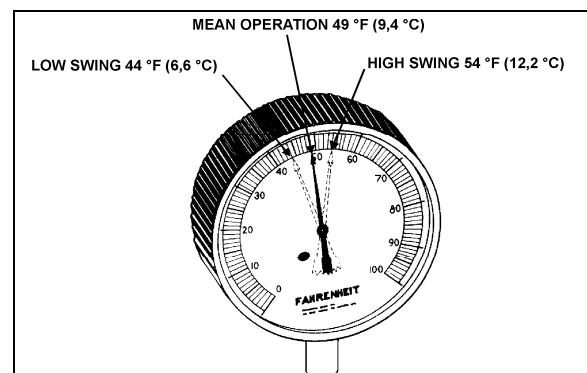

FIGURE 36: HIGH & LOW SWING TEMPERATURE AT REMOTE BULB
6. Check approximately 5 readings of pressure at 2-minute intervals and convert to temperature using the vapor-pressure table (page 36). Likewise check the temperature reading at the remote bulb at the same 2-minute intervals and record the low and high swing readings of the needle (refer to figure 36).
Example of readings taken at Fig. 36: